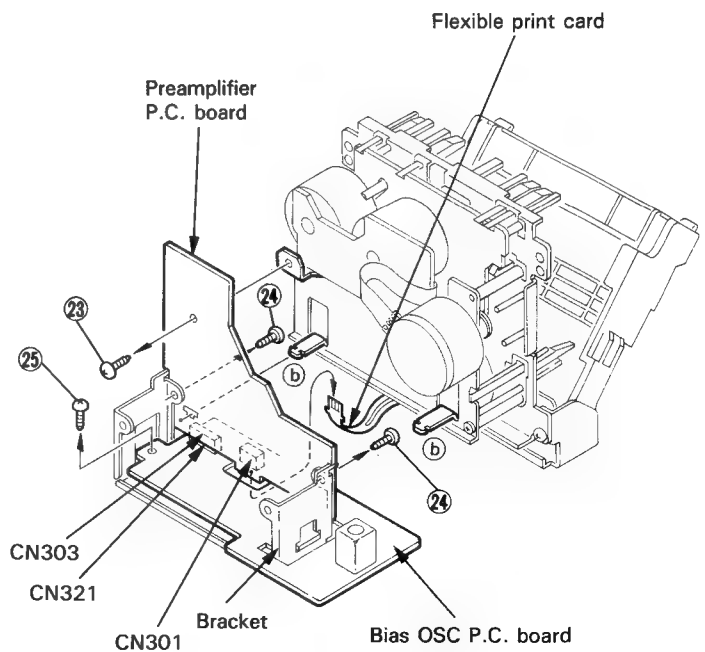

Fig. 7-20
■ **Method of removing the preamplifier P.C. board and bias OSC P.C. board (Refer to Fig. 7-20)**
3. From the cassette mechanism assembly, remove the one screw (23) retaining the preamplifier P.C. board.
5. From the bracket, remove the two screws (24) retaining the preamplifier P.C. board.
7. From the bracket, remove the one screws (25) retaining the bias OSC P.C. board.